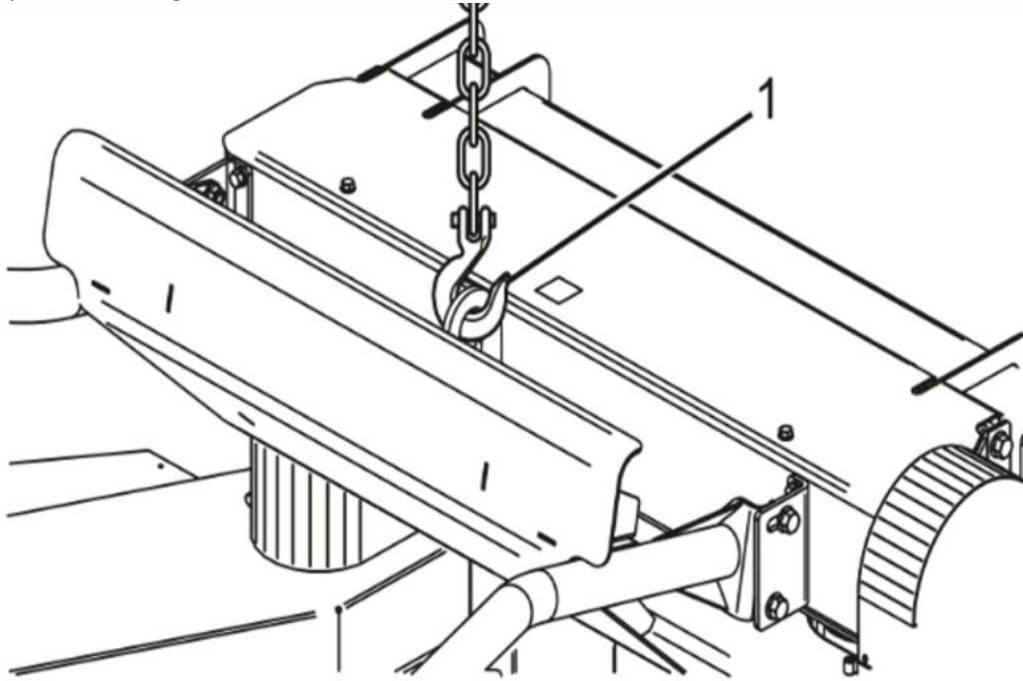

Figure 54 Header lift point
Ensure the harvester and header rest on a flat and level surface. The headers are equipped with a single point lift (item 1, Figure 54 Header lift point) allowing the use of a lift chain and hook with a minimum lifting capacity of 3000 lbs (1350 kg) for easy maneuvering.